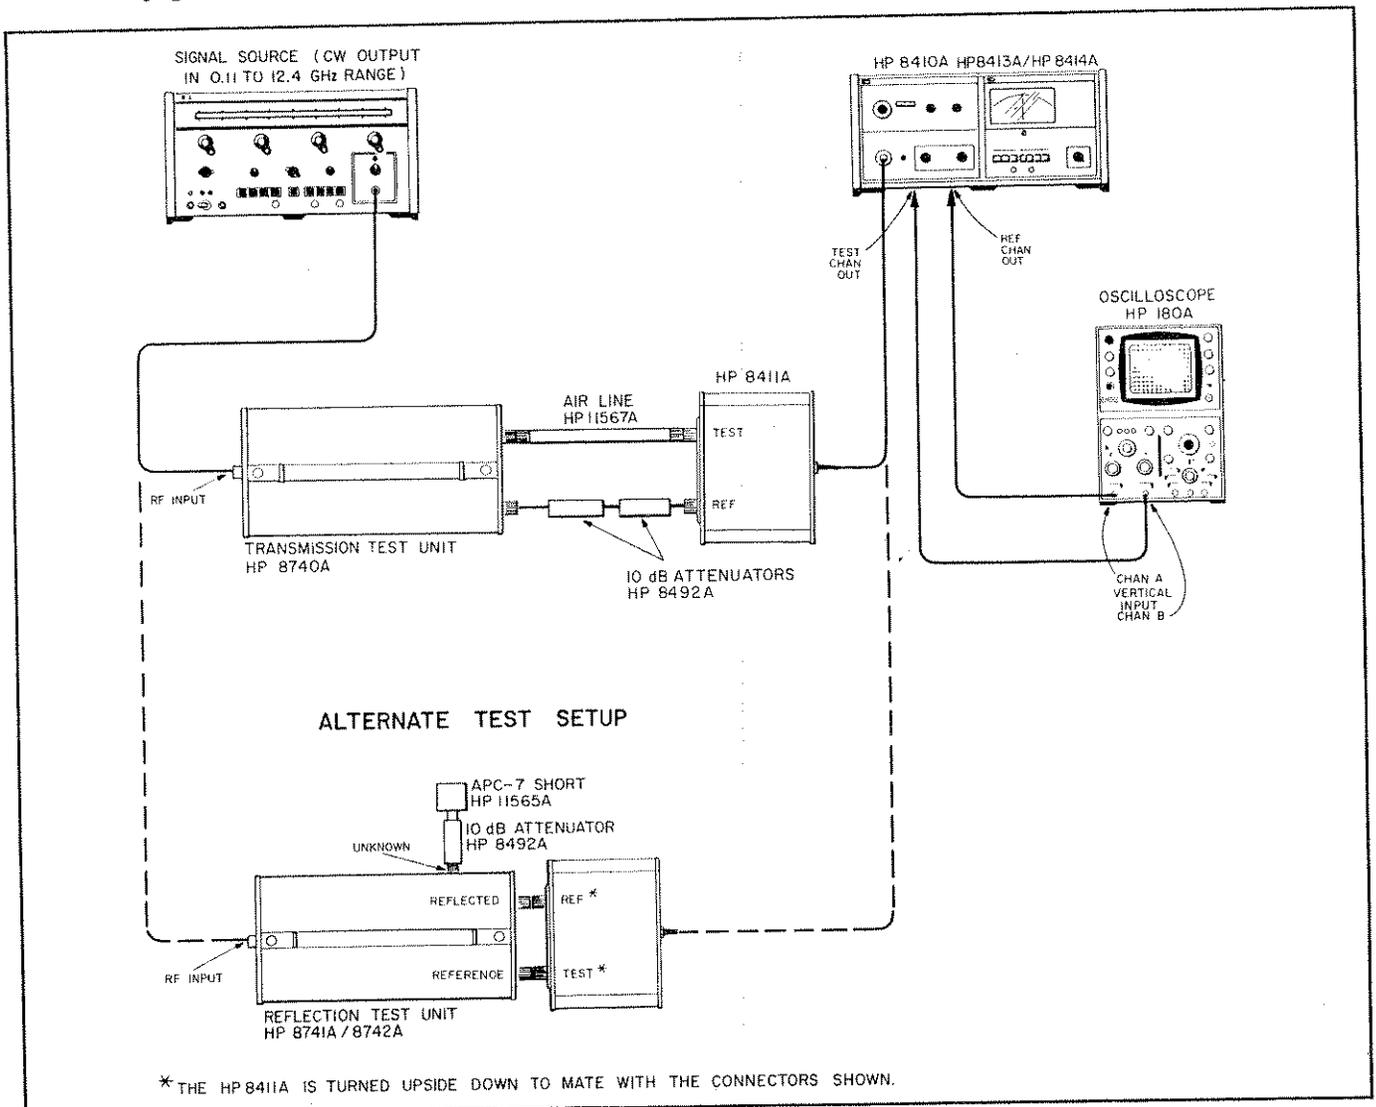

Figure 1-7. Test Setup For Operators Quick Check
- a. Connect equipment as shown in Figure 1-7.